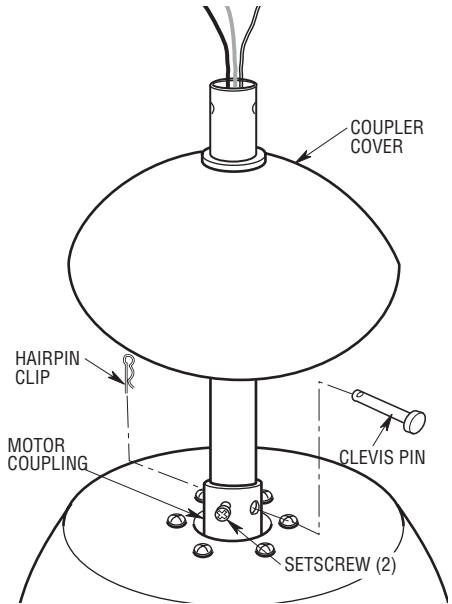

Figure 7
- 14. While pulling up on the downrod, securely tighten the two setscrews in the motor coupling (Figure 7).
- 15. Make sure the grommet is properly installed in the coupling cover then slide the coupler cover on the downrod until it rests on the motor housing. Place the ceiling cover over the downrod. Be sure both the ceiling cover and the coupler cover are oriented correctly (Figure 7).